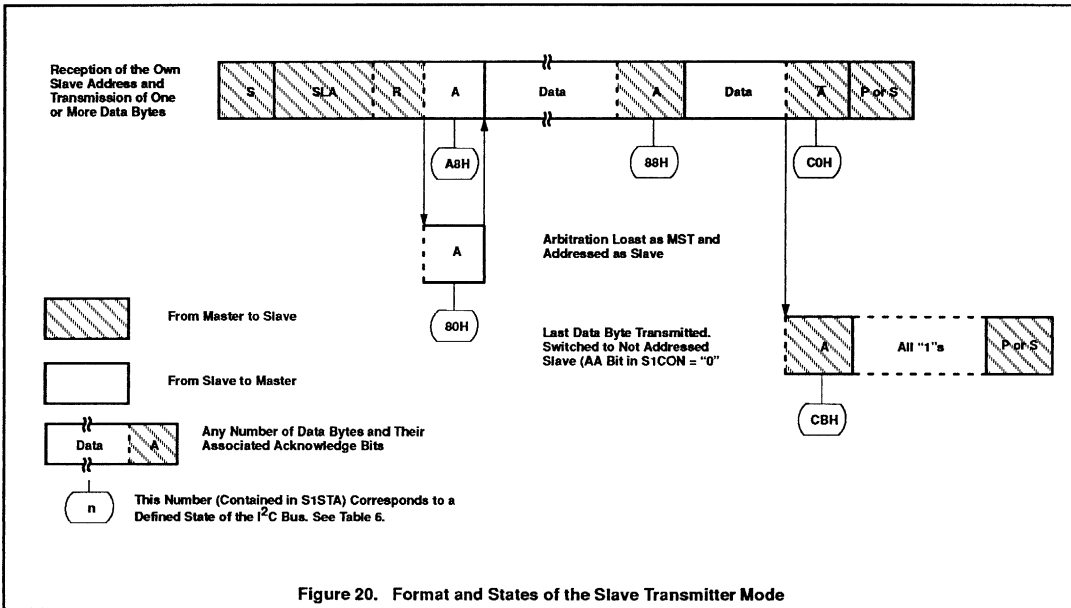

Figure 20. Format and States of the Slave Transmitter Mode
When WIO1 is in the addressed slave transmitter mode, state C8H will be entered after the last serial is transmitted (see Figure 20). When SI is cleared, SIO1 leaves state C8H, enters the not addressed slave receiver mode, and the SDA line remains at a high level. In state C8H, the AA flag can be set again for future address recognition.
**Slave Transmitter Mode:** In the slave transmitter mode, a number of data bytes are transmitted to a master receiver (see Figure 20). Data transfer is initialized as in the slave receiver mode. When S1ADR and S1CON have been initialized, SIO1 waits until it is addressed by its own slave address followed by the data direction bit which must be "1" (R) for SIO1 to operate in the slave transmitter mode. After its own slave address and the R bit have been received, the serial interrupt flag (SI) is set and a valid status code can be read from S1STA. This status code is used to vector to an interrupt service routine, and the appropriate action to be taken for each of these status codes is detailed in Table 6. The slave transmitter mode may also be entered if arbitration is lost while SIO1 is in the master mode (see state B0H).